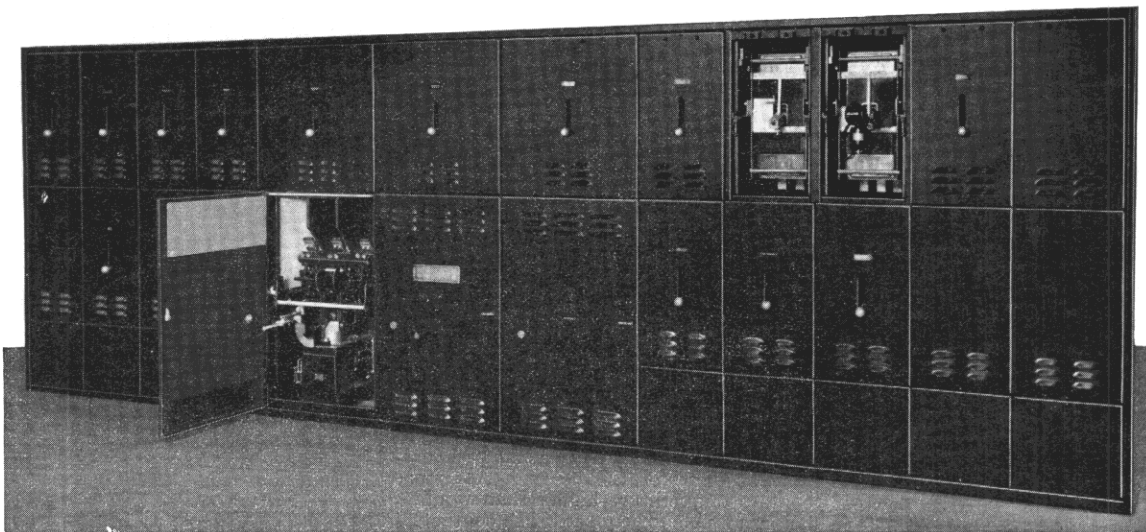

FIG. 35—FRONT VIEW OF DRAW-OUT TYPE METAL-ENCLOSED AIR CIRCUIT BREAKER SWITCHGEAR ASSEMBLY.
In the equipment shown in Fig. 35, the type AB "De-ion" circuit breakers are mounted in frames which can be readily moved into and out of their cells, the units being equipped with roller bearings to facilitate their movement. There are two main positions for the breaker unit within the cell: (1) "CONNECTED" position and (2) "DISCONNECT" position. In the former, the main and auxiliary contacts of the removable unit are in full engagement with their associated stationary ones. Only the auxiliary contacts are in en-